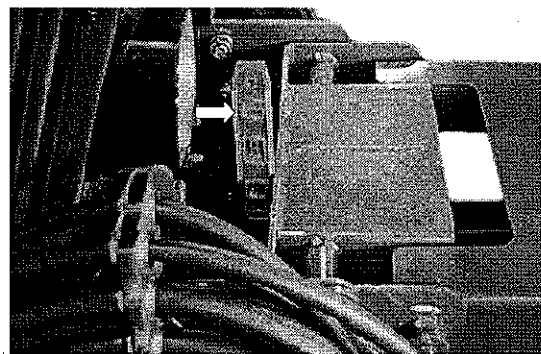

figure 4
- a. Place a bubble level on the swing (figure 4).